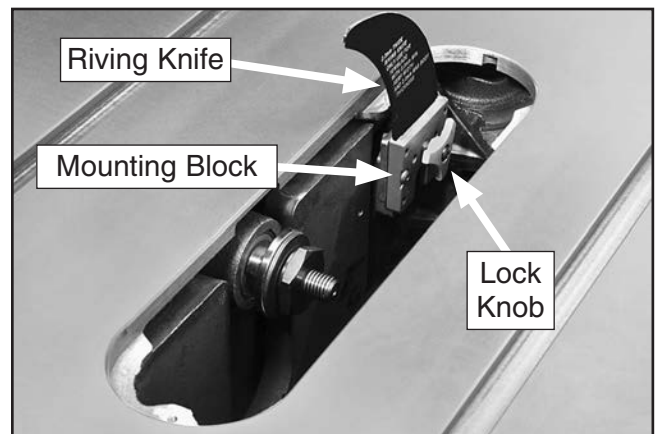

Figure 40. Riving knife installed.
4. Unthread the lock knob on the riving knife/blade guard mounting block (**Figure 40**) several turns. Push the riving knife away from the knob, then lift the riving knife up to remove it.